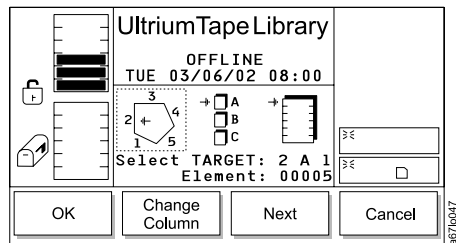

Figure 146. Position Picker Dialog
3. Press the button below the **Position Picker** softkey. The Position Picker Dialog displays (see Figure 146 on page 131) with a message area that shows three icons:
The position of the arrow in each of the three icons identifies the storage slot's physical address. For example, arrows that point to a column 2, magazine A, and storage slot 1 indicate a physical address of 2 A 1. In the Position Picker Dialog, a slot's physical address displays below the right icon (see Figure 146).